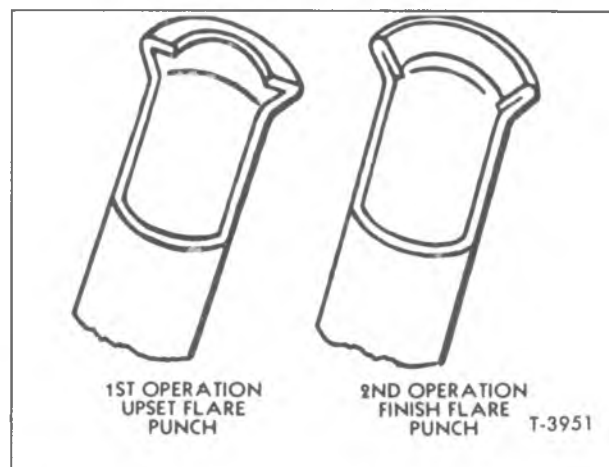

Figure 8—Flaring Operation (First and Second Flare)
8. Insert finish flare and ram in tool body and tap ram until a good seat is formed (fig. 8).